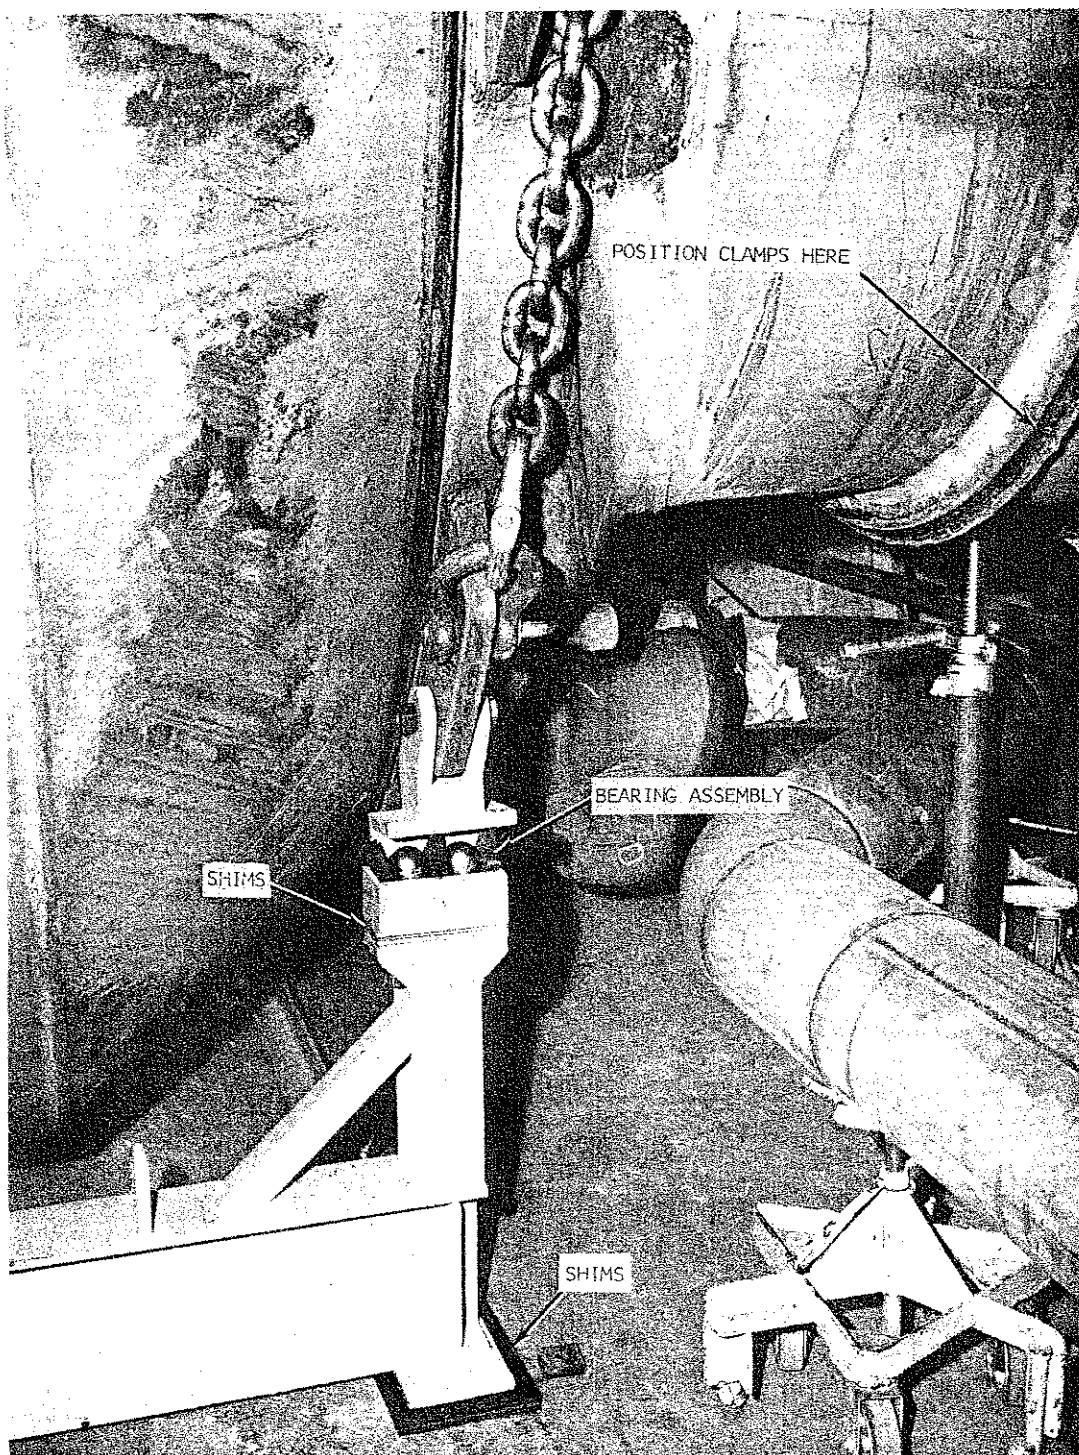

FIG. 10 ALIGNMENT
- a) Position the shims either under the converter support base at the inlet side or under the bearing assembly at the outlet side. For shim installation details refer to Drawing D-S-77603-C5 and E-S-77603-C3 (Fig. 10).